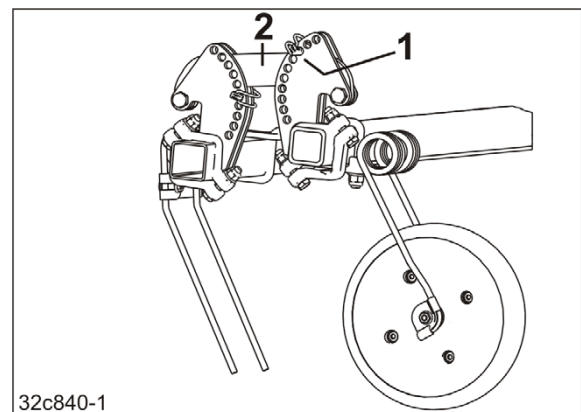

Fig. 181
3. The working depth of the harrow tines is adjusted by repositioning the safety pin for the tube (Fig. 181/1)
- o above the link (Fig. 181/2),
The lower the safety pin for the tube (Fig. 181/1) is inserted in the adjusting segment, the greater the working depth.